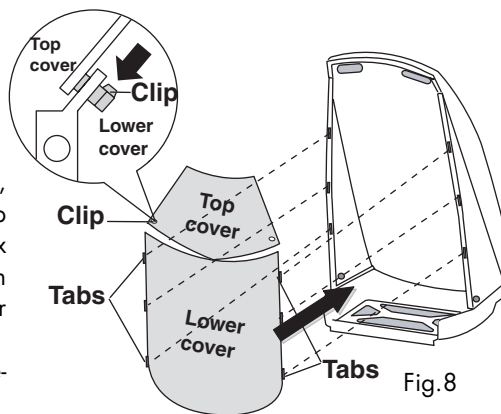

Fig.8
**Attention:** to unhook press on the relevant clips (fig.8).